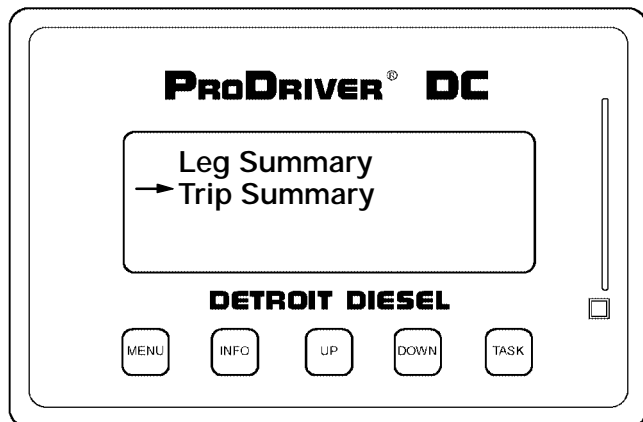

Figure 5-10 Driver Leg and Trip Summary Screen
- Leg Summary, **INFO** or Trip Summary, **INFO** (see Figure 5-10).
There are sixteen basic screens (pages) of information available to view in Driver Trip Summary. Once the first page of information has been accessed by selecting Trip Summary (see Figure 5-10), you can scroll through the pages by pressing **INFO**, **UP**, or **DOWN**. Press **MENU** to exit. The sixteen screens (pages) and the information included are shown in Figure 5-12, Figure 5-13, Figure 5-14, and Figure 5-15.